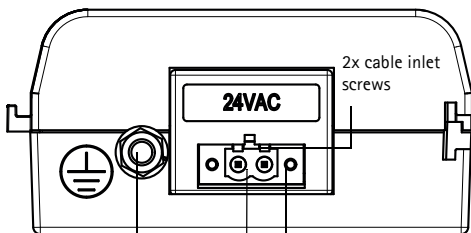

Figure 2
- The power connector supplied with the AXIS T8125 has 2 terminals. See Figure 2.